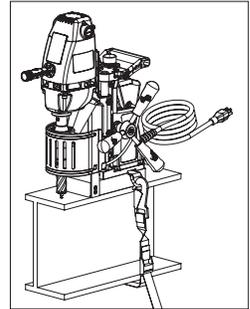

Figure 5
7. The safety strap must be securely fastened to machine and around work being drilled. Loop strap around work piece and connect strap ends by attaching to D-rings on drill. **(Figure 5)** **NOTE:** Safety strap is intended only to restrain the drill to the workpiece in the event of a power failure to the magnetic base.